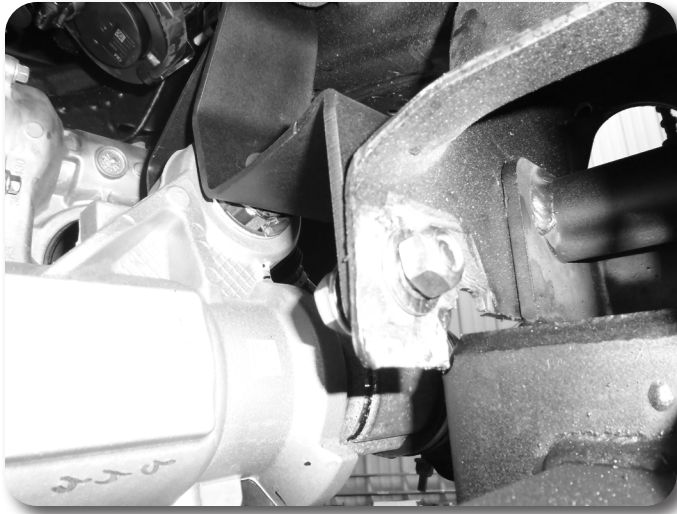

Figure 28
38. Install the provided 1/2" x 1-1/2" bolt, 1/2" SAE Washers, and 1/2" Prevailing torque nut through the slot on the factory rear cross member and the differential brace Fig. 28. Leave hardware loose.